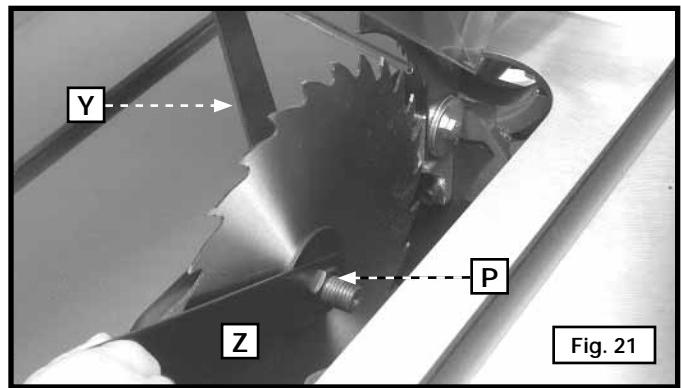

Fig. 21
12. Attach the saw blade with the teeth pointing down at the front of the saw table (Fig. 21). Attach the outside blade flange and arbor nut (X). With the open end wrench (Y) on the flats of the arbor, tighten the arbor nut by turning the box-end wrench (Z) clockwise.